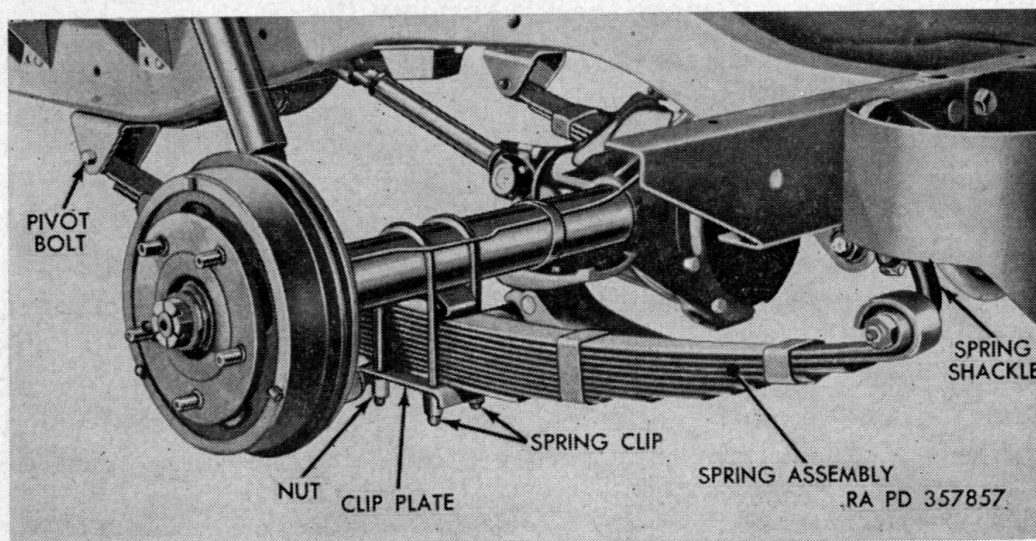
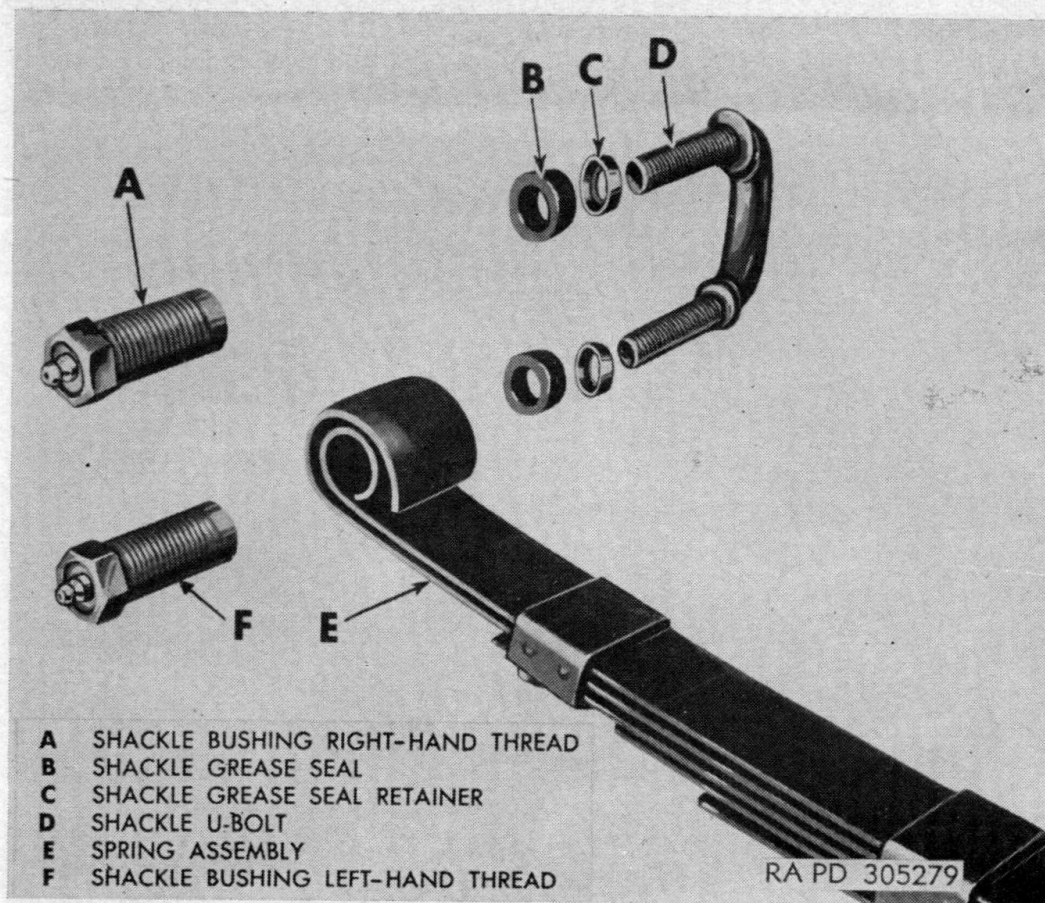
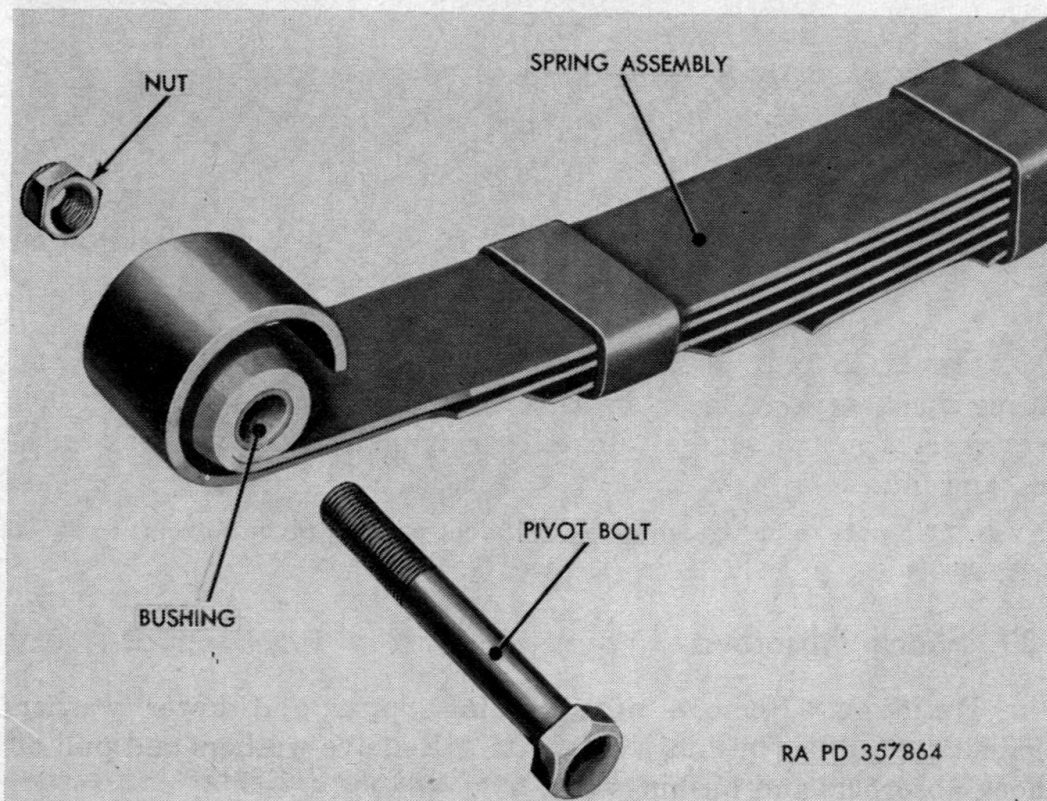

Figure 49. Rear spring mounting.
Figure 51. Shackle end of spring.
Figure 52. Pivot end of spring.
*a. Description.* All the springs are semi-elliptic leaf type (figs. 49 and 50), with double wrapped eyes. Each spring has four rebound clips which serve to hold the leaves in alignment and hold the leaves together to take the rebound. Threaded U-bolt shackles (fig. 51) mount the front end of the front springs and the rear end of the rear springs. Left-hand thread shackle and bushings are used in the spring eye of the left front and right rear springs. These shackles have a small forged bar on the lower shank and the bushings have a groove cut around the hexagon head. A pivot bolt (fig. 52) is used to mount the rear end of the front springs and front end of the rear springs to the frame bracket. The shock absorbers are hydraulic cylinder, direct-acting, two-way control units and are mounted in rubber bushings. These units are nonadjustable and nonrefillable.
*a.* REMOVAL OF PIVOT BOLT. Raise vehicle frame until tires just rest on the floor. Remove pivot bolt nut and drive out the pivot bolt (fig. 52).
*c.* REMOVAL OF SPRING SHACKLES. Raise vehicle frame until tires just rest on floor. Remove shackle bushings (fig. 51).
*b. INSTALLATION.* Install pivot bolt (par. 185*b* and fig. 52) and spring shackle (par. 185*d*). Raise vehicle by frame spring center bolt sets in place on axle saddle. Install spring plate with clips, lock washers, and nuts.